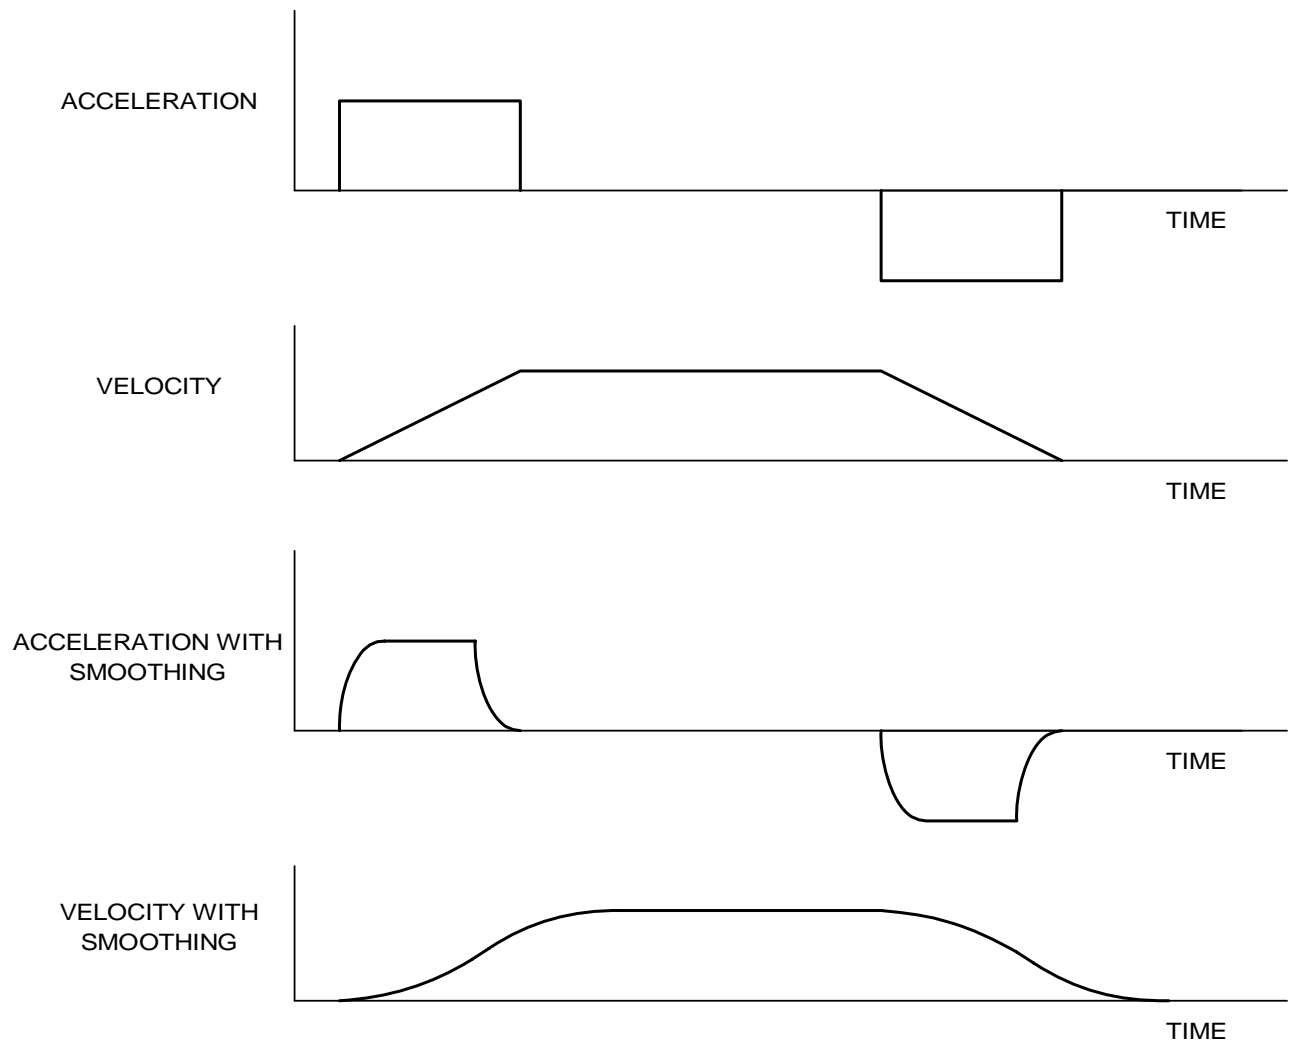

Figure 6.7 - Trapezoidal velocity and smooth velocity profiles
The following example illustrates the effect of smoothing. Fig. 6.7 shows the trapezoidal velocity profile and the modified acceleration and velocity.
The Find Edge (FE) instruction is useful for initializing the motor to a home switch. The home switch is connected to the Homing Input. When the Find Edge command and Begin is used, the motor will accelerate up to the slew speed and slew until a transition is detected on the Homing line. The motor will then decelerate to a stop. A high deceleration value must be input before the find edge command is issued for the motor to decelerate rapidly after sensing the home switch. The velocity profile generated is shown in Fig. 6.7.